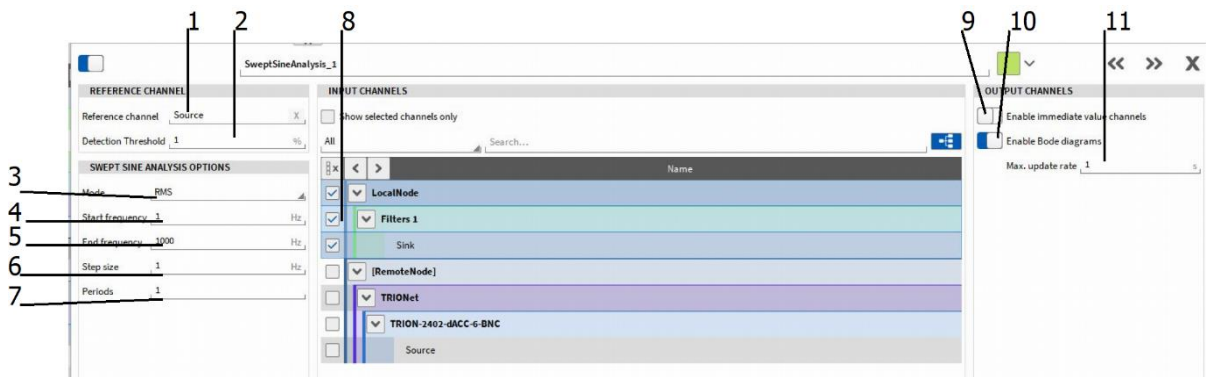

Figure 5-63: Swept Sine Analysis setup – Overview
- $ChannelName_iRMS$ or $ChannelName_iPeak$: Time domain channel; Contains the amplitude (RMS or Zero-to-Peak level depending on the selection in ③ in Figure 5-63) of the signal at the actual frequency; The amplitude is only referring to the fundamental frequency signal components; Can be assigned to a Recorder (see section 6.4), Digital Meter (see section 6.3) or similar
- *ChannelName_iUFRMS* or *ChannelName_iUFPeak*: Time domain channel; Contains the amplitude (RMS or Zero-to-Peak level depending on the selection in ③ in Figure 5-63) of the signal at the actual frequency; The amplitude is referring to the entire signal components; Can be assigned to a Recorder (see section 6.4), Digital Meter (see section 6.3) or similar
- *ChannelName_RMS* or *ChannelName_Peak*: Frequency domain channel; Contains the transfer function (RMS or Zero-to-Peak level depending on the selection in ③ in Figure 5-63); The amplitude is referring to the fundamental frequency signal components; Can be assigned to a Spectrum Analyzer (see section 6.12) instrument for displaying the data.
- *ChannelName_UFRMS* or *ChannelName_UFPeak*: Frequency domain channel; Contains the transfer function (RMS or Zero-to-Peak level depending on the selection in ③ in Figure 5-63); The amplitude is referring to the entire signal components; Can be assigned to a Spectrum Analyzer (see section 6.12) instrument for displaying the data.